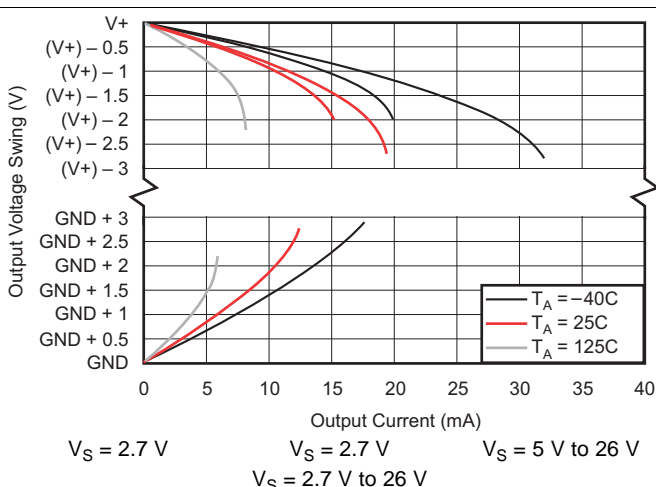

图 10. Output Voltage Swing vs Output Current
(1) RTI = referred-to-input.
(2) See Typical Characteristic curve, *Output Voltage Swing vs Output Current* (图 10).